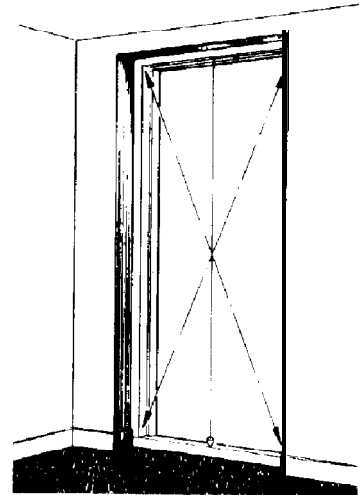

FIG. 1
- C. Confirm the squareness of the sub-frame by checking that the diagonals are identical. FIG 1. If they are unequal adjust the frame and recheck.